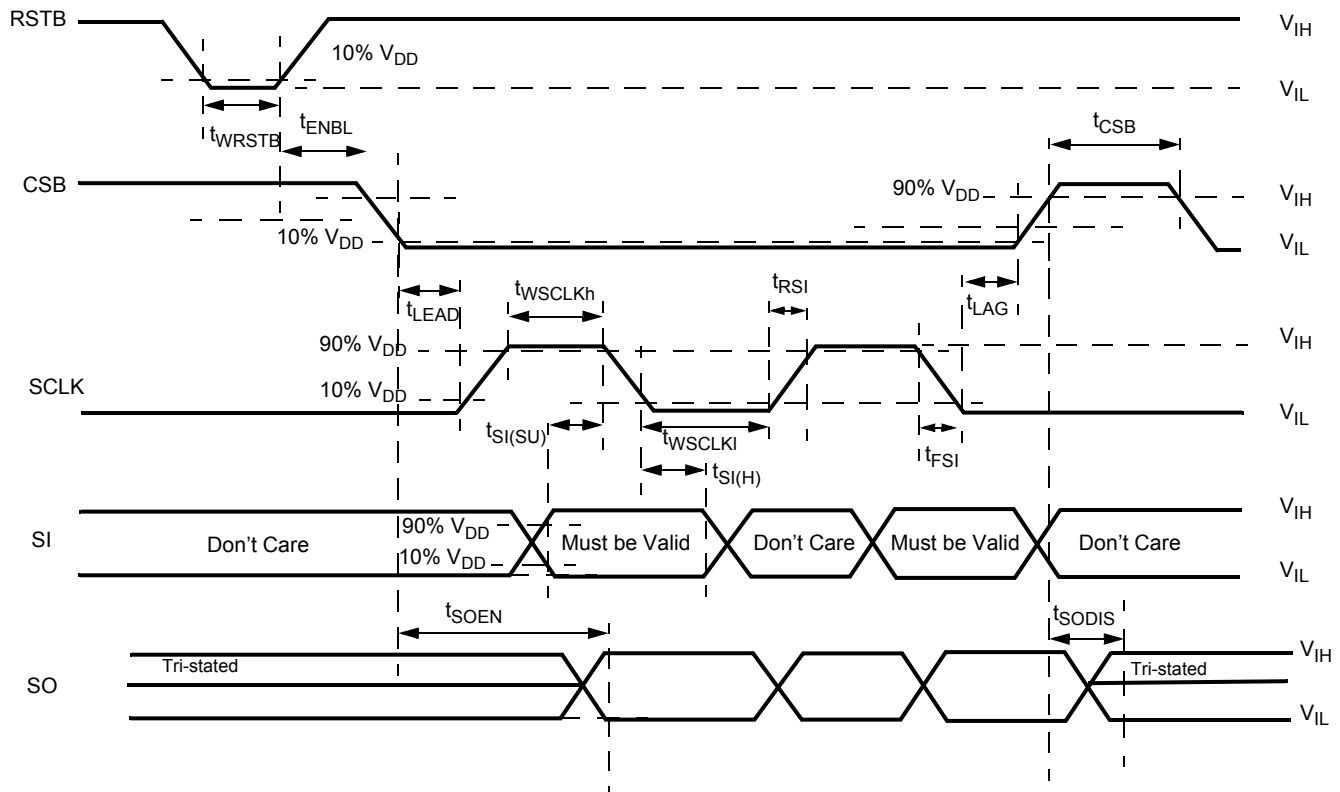
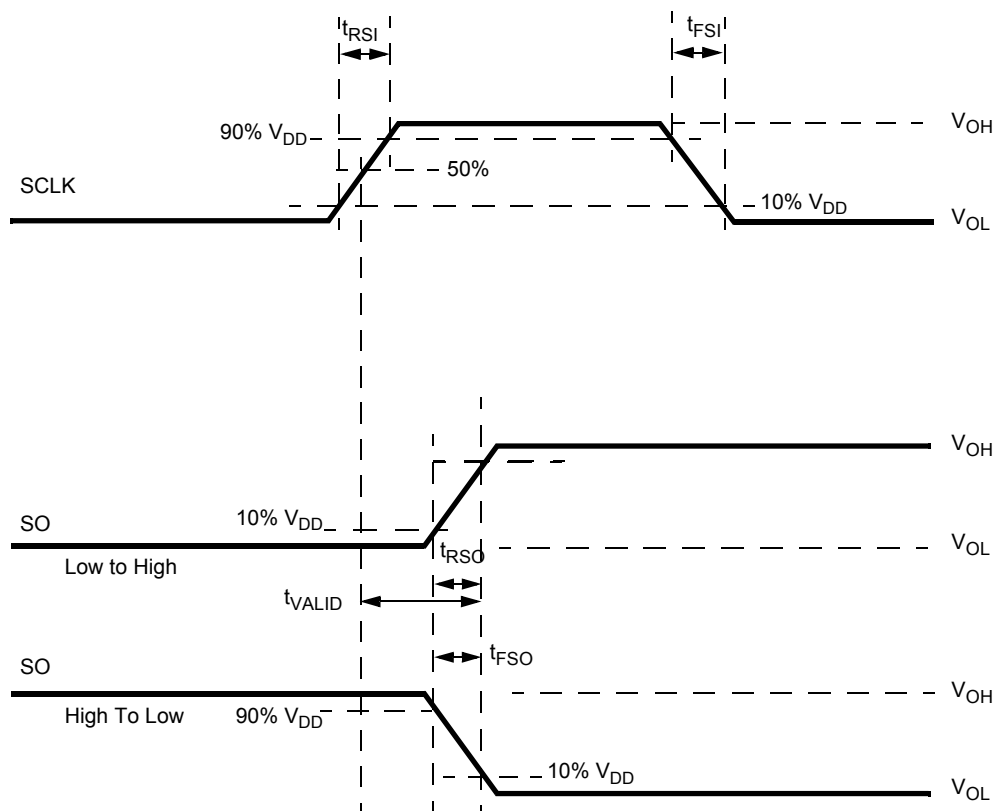

Figure 7. Timing Requirements During SPI Communication
Figure 8. Timing Diagram for Serial Output (SO) Data Communication
edge of CSB. The SO output driver is enabled when CSB is logic [0]. CSB should transition from a logic [1] to a logic [0] state only when SCLK is at logic [0] (Figure 7 and Figure 8). CSB is internally pulled up to V_{DD} through I_{UP} .
Serial input (SI) data bits are shifted in at this pin. SI data is read on the falling edge of SCLK. 16-bit data packages are required on the SI pin (see Figure 7), starting with bit D15 (MSB) and ending with D0 (LSB). All the internal device registers are addressed and controlled by a 4-bit address (D9-D12) described in Table 11. Register addresses and function attribution are described in Table 12. The SI pin is internally connected to a pull-down current source, I_{DWN} .